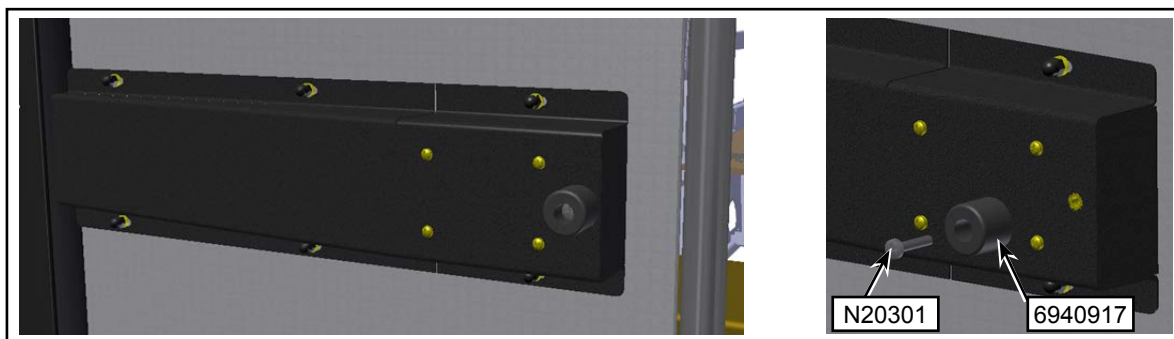

Figure 7 - 6940917 Rubber Bumper Installation on N81901 Bracket (Only if Needed)
- 1.11. Install rubber bumper 6940917 on the N81901 bracket using the N20301 screw **ONLY IF** the distance between the bracket and the seat is less than 38 mm (1.5 in.). See Figure 7.